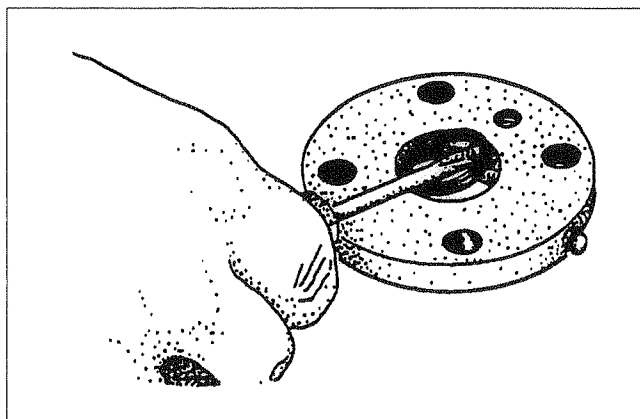

Figure 17
5. With a screw driver lightly pry the salt seal out of the braking cap cover (Figure 17).